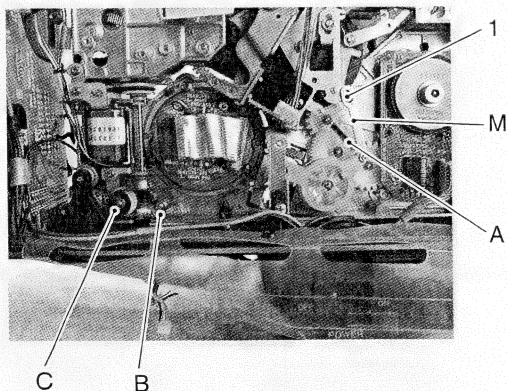

Fig. 2-6-18
1. Attach by reversing the removal procedure (see Fig. 2-6-18). After this, adjust the timing belt tension (see the subsection. 2.7.12).